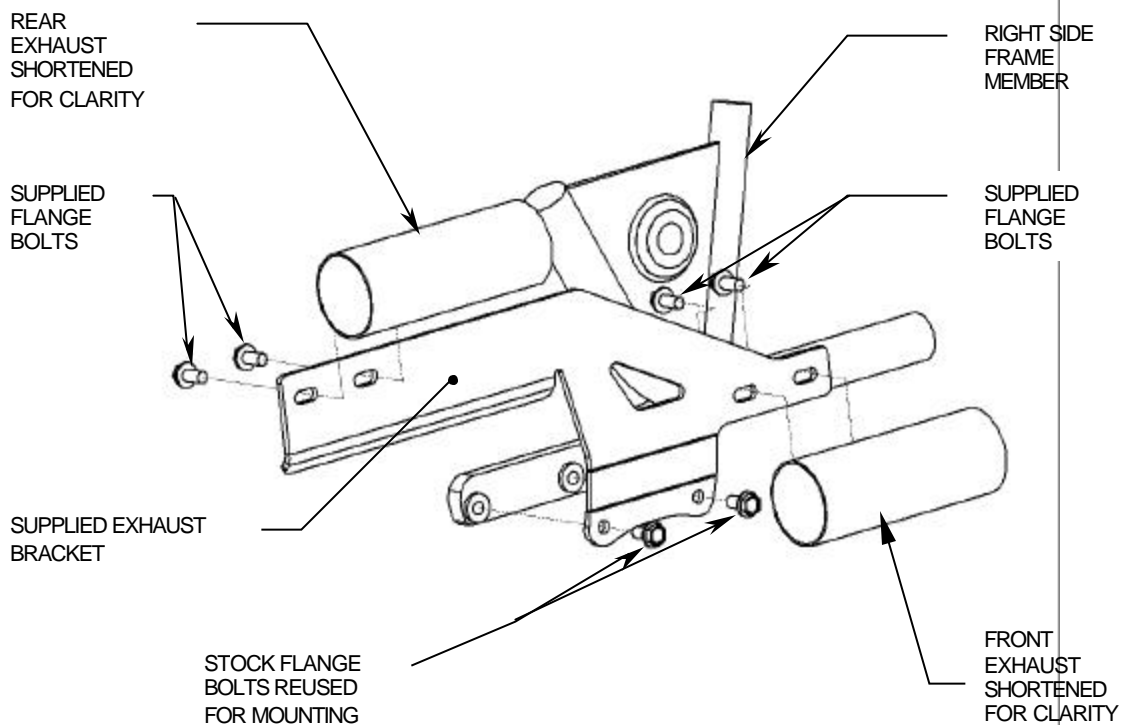

FIGURE 1
3. Remove the exhaust-mounting bracket from the box and mount it to the motorcycle frame using the stock bolts, **DO NOT TIGHTEN** at this time. (See Figure 1)